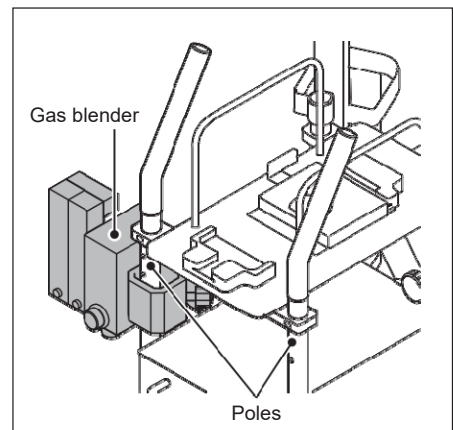
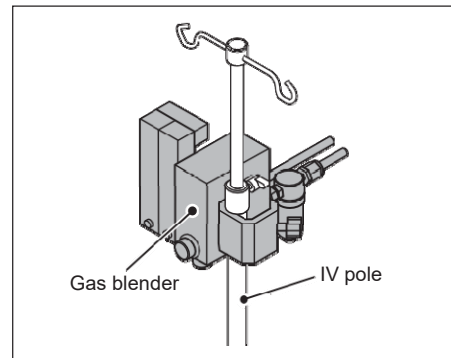

Figure 1-75
Figure 1-76
1. **Attach the gas blender to the front side poles (Figure 1-75) or to the IV pole (Figure 1-76).**